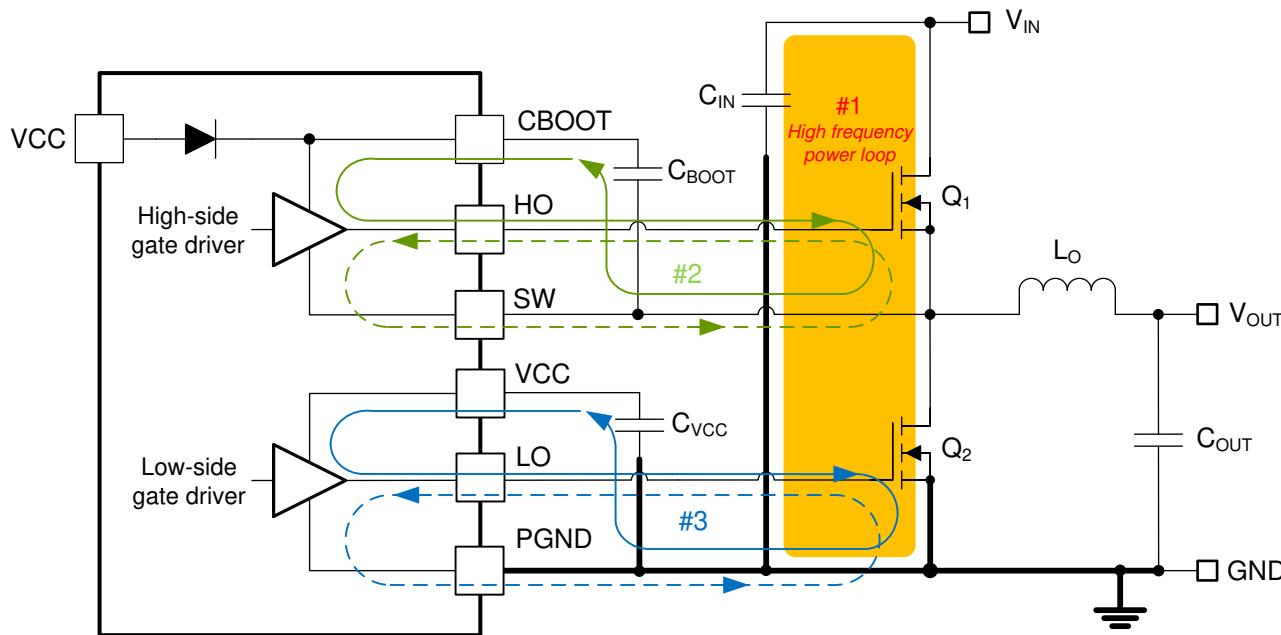

Figure 8-46. DC/DC Regulator Ground System With Power Stage and Gate Drive Circuit Switching Loops
Proper PCB design and layout is important in a high-current, fast-switching circuit (with high current and voltage slew rates) to achieve a robust and reliable design. As expected, certain issues must be considered before designing a PCB layout using the LM5148-Q1. The high-frequency power loop of a buck regulator power stage is denoted by loop 1 in the shaded area of Figure 8-46. The topological architecture of a buck regulator means that particularly high di/dt current flows in the components of loop 1, and reducing the parasitic inductance of this loop by minimizing the effective loop area becomes mandatory. Also important are the gate drive loops of the high-side and low-side MOSFETs, denoted by 2 and 3, respectively, in Figure 8-46.
- Loop 1: The most important loop area to minimize is the path from the input capacitor or capacitors through the high- and low-side MOSFETs, and back to the capacitor or capacitors through the ground connection. Connect the input capacitor or capacitors negative terminal close to the source of the low-side MOSFET (at ground). Similarly, connect the input capacitor or capacitors positive terminal close to the drain of the high-side MOSFET (at VIN). Refer to loop 1 of Figure 8-46.
- The SW pin connects to the switch node of the power conversion stage and acts as the return path for the high-side gate driver. The parasitic inductance inherent to loop 1 in Figure 8-46 and the output capacitance (C_{oss}) of both power MOSFETs form a resonant circuit that induces high frequency (greater than 50 MHz) ringing at the SW node. The voltage peak of this ringing, if not controlled, can be significantly higher than the input voltage. Make sure that the peak ringing amplitude does not exceed the absolute maximum rating limit for the SW pin. In many cases, a series resistor and capacitor snubber network connected from the SW node to GND damps the ringing and decreases the peak amplitude. Provide provisions for snubber network
- Loop 2: high-side MOSFET, Q_1 . During the high-side MOSFET turn-on, high current flows from the bootstrap (boot) capacitor through the gate driver and high-side MOSFET, and back to the negative terminal of the boot capacitor through the SW connection. Conversely, to turn off the high-side MOSFET, high current flows from the gate of the high-side MOSFET through the gate driver and SW, and back to the source of the high-side MOSFET through the SW trace. Refer to loop 2 of Figure 8-46.
- Loop 3: low-side MOSFET, Q_2 . During the low-side MOSFET turn-on, high current flows from the VCC decoupling capacitor through the gate driver and low-side MOSFET, and back to the negative terminal of the capacitor through ground. Conversely, to turn off the low-side MOSFET, high current flows from the gate of the low-side MOSFET through the gate driver and GND, and back to the source of the low-side MOSFET through ground. Refer to loop 3 of Figure 8-46.